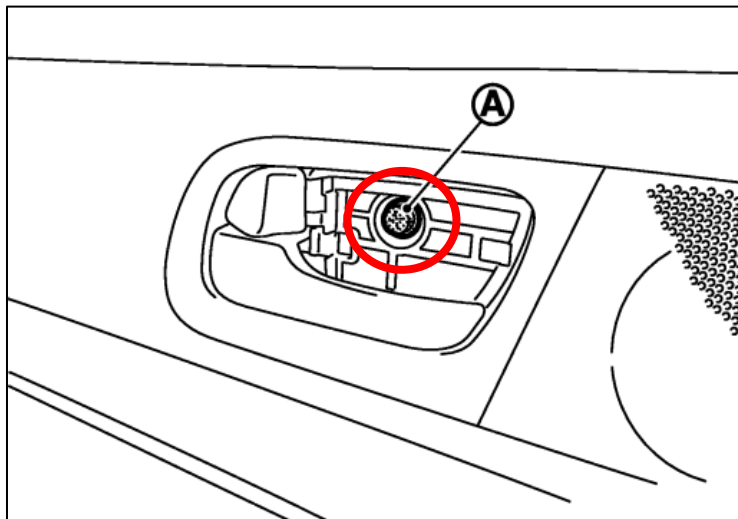

Figure 56
3. Remove the (1) one 10mm Bolt behind the Trim Piece that was just removed. *Figure 56.*